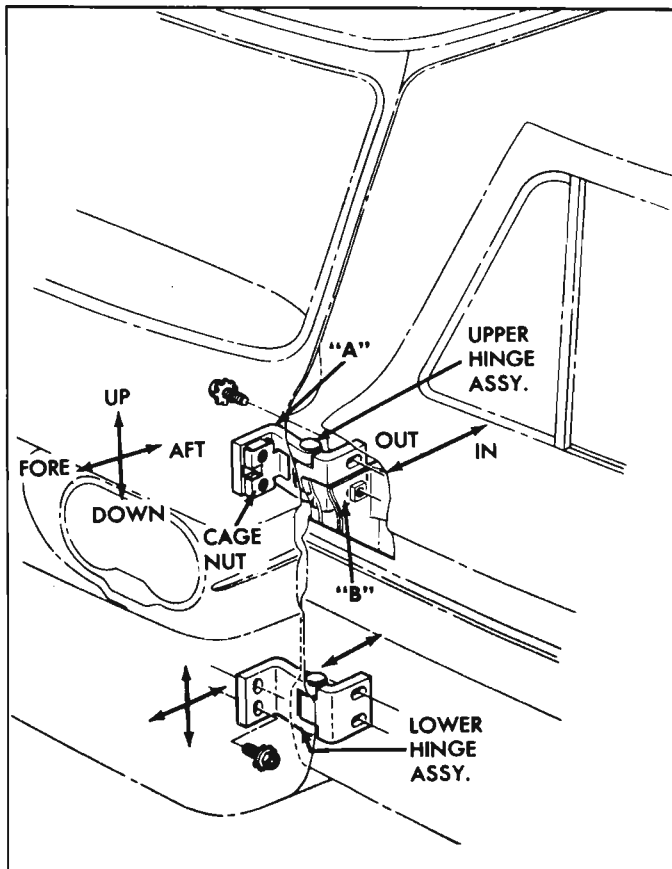

Fig. 10-37a—Front Side Door Hinges
2. Remove the door to upper hinge retaining bolts (fig. 10-37a).
4. If hinge is damaged, remove the hinge to pillar bolts, and remove the hinge (fig. 10-37a).
Door adjustment may be accomplished at two; at the hinge cage to pillar. Before adjustment is made on any door, however, the striker plate should be loosened or removed. The door can be moved fore, aft, up and down at the hinge pillar ("A", fig. 10-37a) and the door can be moved in and out at the hinge to door panel
("B", fig. 10-37a). Move door as required and tighten bolts.